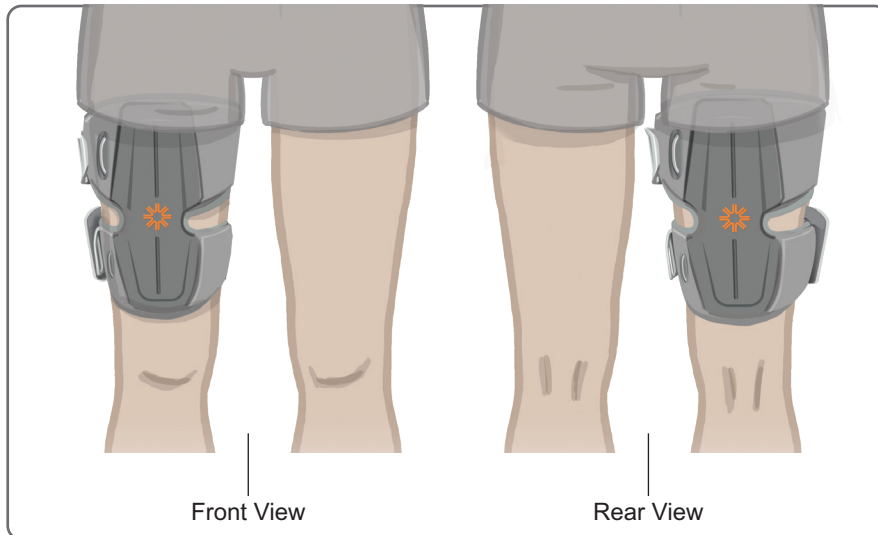

Figure 8-18: Correct Position of the Thigh Cuff
- Center the bridge on the midline of the thigh. See Figure 8-18.
- Fasten the straps by inserting the strap buckle into the hook attached to the Thigh Cuff panels. See Figure 8-18. If needed, tighten the strap tension by adjusting the strap fasteners.